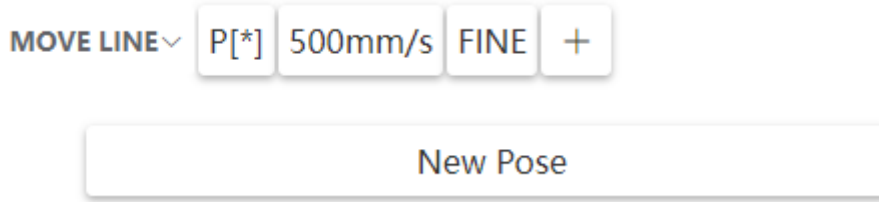
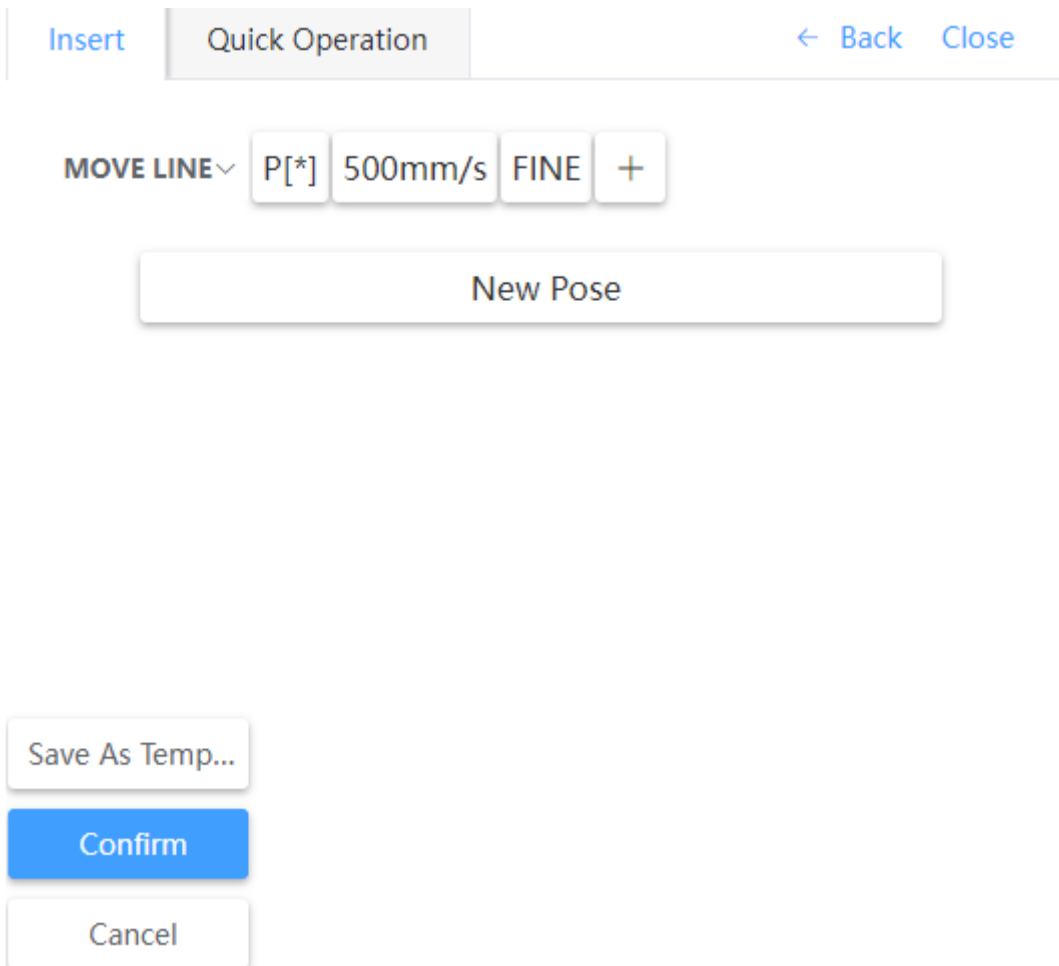

Fig. 4.14 Motion Instruction Editing Window
Fig. 4.15 Example of Continuous Motion Instruction
4. Teach the robot to the desired target position, click on new pose in Fig. 4.14, and "*" in P [*] will display specific numbers as shown in Fig. 4.15. Click "Confirm" to complete the insertion of motion instructions (insertion steps are the same for MOVEJ and MOVEC instructions).
5. Click on the motion instruction editing interface to switch between motion instructions (MOVJ, MOVEC). In order to edit P, click "P [*]" in Fig. 4.14 to display the following screen.